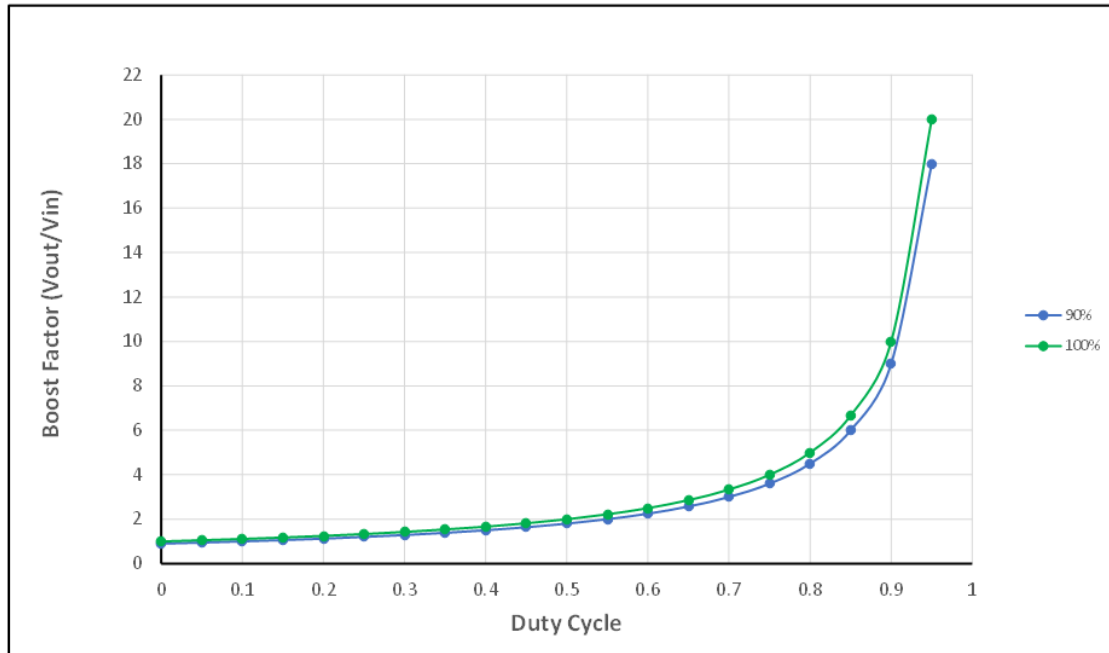

Figure 5. EPC7C020 Evaluation Board Boost Factor vs. Duty Cycle.
Like any boost converter, the EPC7C020 board has limitations on the useful range that the duty cycle applied to it may assume, either to guarantee the output is boosted (increased in magnitude) from the input or to prevent damage/destruction of the EPC7011L7 IC. Figure 5 shows the boost factor, V_{out}/V_{in} , for duty cycles from 0% to 95% (0.95), and at two different conversion efficiencies 90% (blue) and 100% (green, ideal). The boost factor for the EPC7C010 will vary between the two values shown for a given duty cycle, depending upon the components utilized. For the EPC7C020 board as supplied, the boost factor will be closer to the ideal than to the 90% efficiency value. The 95% duty cycle value should be considered the upper limit for the EPC7C020 during operation.
1.) The following test equipment is recommended to properly evaluate the EPC7C020 Eval. Board as shown in Figure 5: